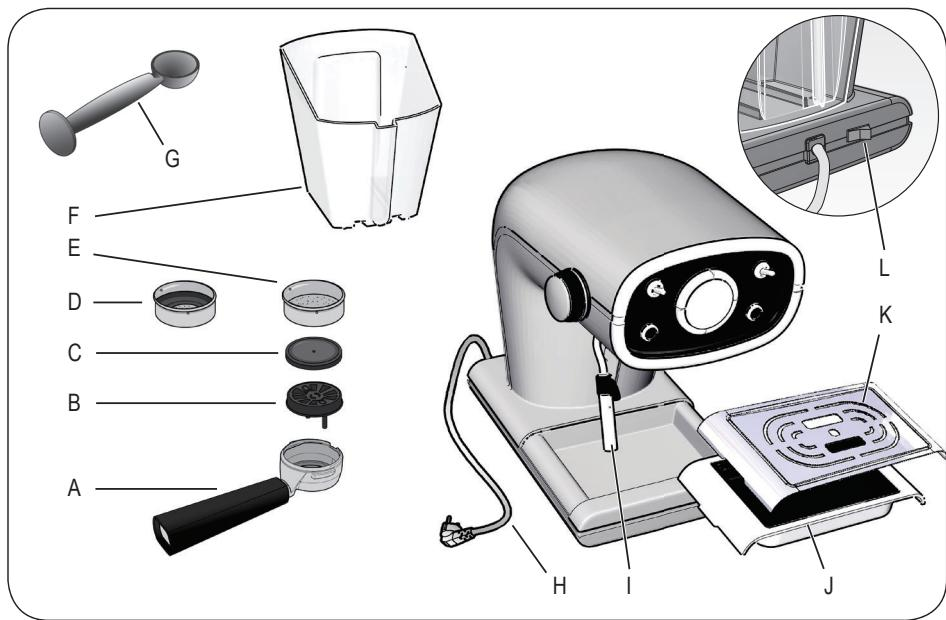

Fig. 1
After filling the tank with cool tap water, plug it into the electrical outlet, which must be equipped with grounding unit. Switch on the machine by pressing the button (L) (Fig. 1). The light (R) will turn on to indicate that the machine is on.